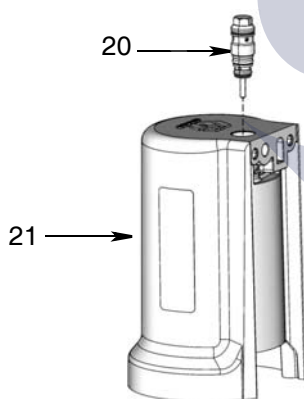

Fig. 39
4. Remove pilot valve (20) from the old air cylinder (21). Apply a light coat of grease to o-rings.
5. Install pilot valve (20) into new air cylinder included in the kit (Fig. 39). Torque to 95-105 in. lbs (10.7-11.9 N.m).